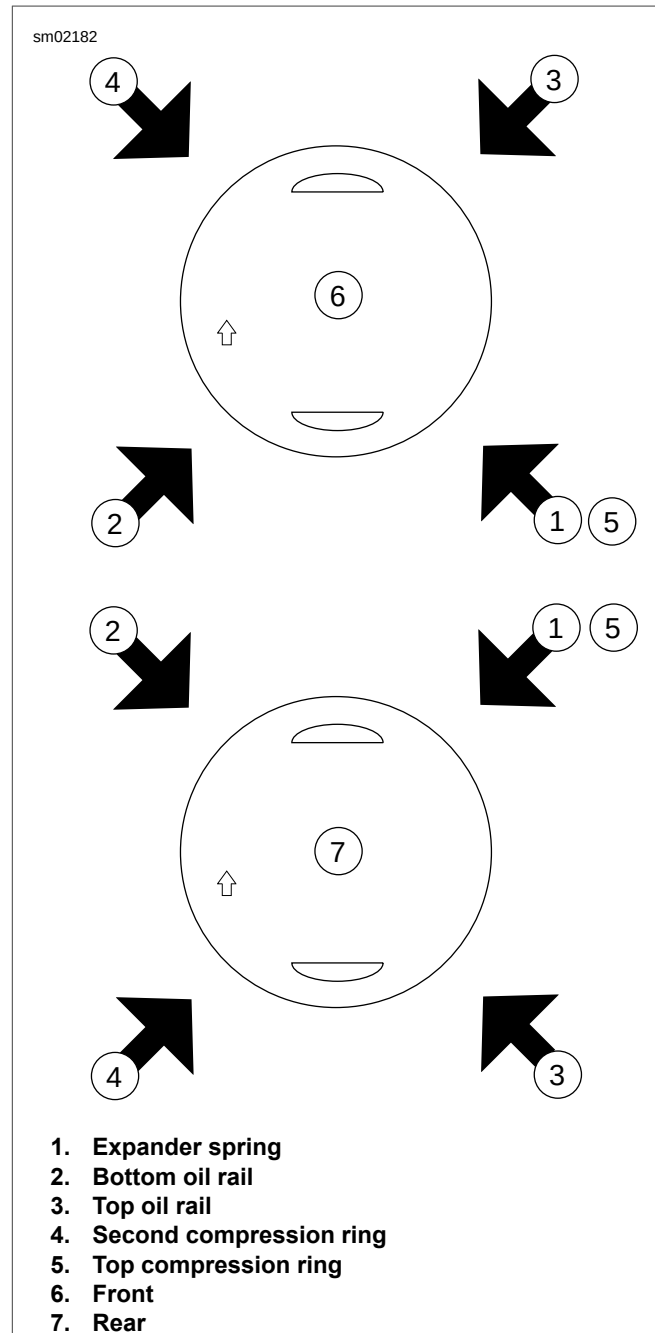

Figure 3-74. Piston Ring Alignment
3. See Figure 3-74. Verify that the piston ring end gaps are staggered. Rotate each ring to position the gap 90 to 180 degrees from the gap in the ring above it. Locate the top piston ring (5) gap towards the intake port.